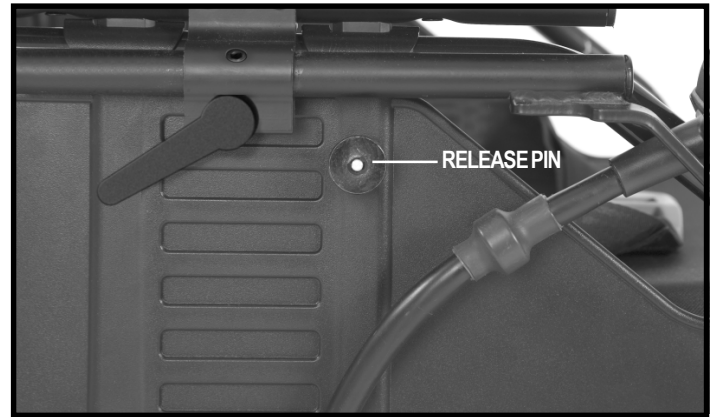

Figure 24. Armrest Height Adjustment
1. Hold the armrest and pull the pin on the side of the armrest out. See figure 24.